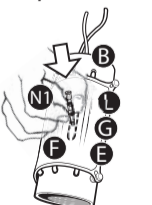

Fig. 9 - Position/Insert Needle
4. Firmly pinch needle **N1** between index finger and thumb of opposite hand so that the point is facing down towards the intercostal space (Fig. 9). Note that needle **N1** must be positioned directly above and centered on the intercostal space. Hold needle **N1** at 90 degrees to skin patch **L** and push through skin patch **L**, flesh pad **G**, tissue patch **E**, decompression slot **F**, and into body **B** (Fig. 9, white arrow). This simulates insertion through the ribs into the chest.